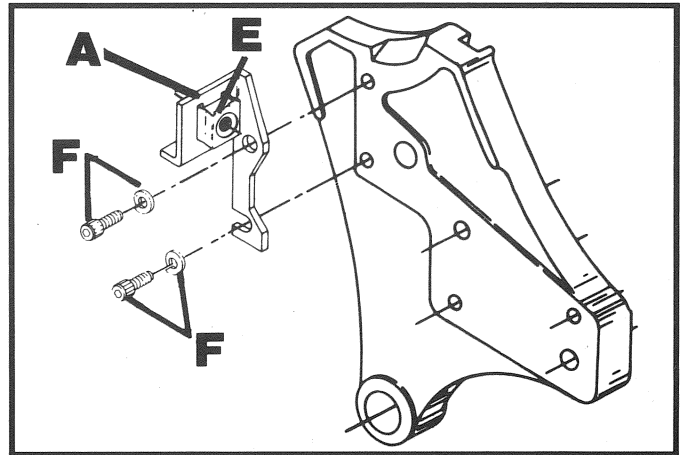

Fig. 1
3. Assemble the inside splitter mounting bracket (A) Fig. 1, to the inside of the saw carriage using two screws and washers (F). **NOTE:** Snap out the encapsulated nut (E) to make this operation easier. **DO NOT** completely tighten the two screws (F) at this time.